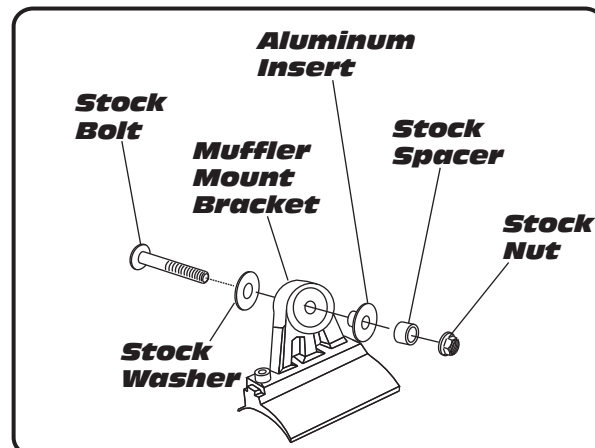

Fig. 2
- 9 Mount muffler to stock muffler mount location using the stock and supplied hardware (see Fig. 2 and Fig. 3 and parts diagram on page 3).
- 13 Check for proper clearance between new exhaust system and rear suspension (i.e. tire, swing-arm, brake, etc). If any problem is found, please carefully follow through the installation steps again. If problem still persists, please call Yoshimura tech department at (800)634-9166.